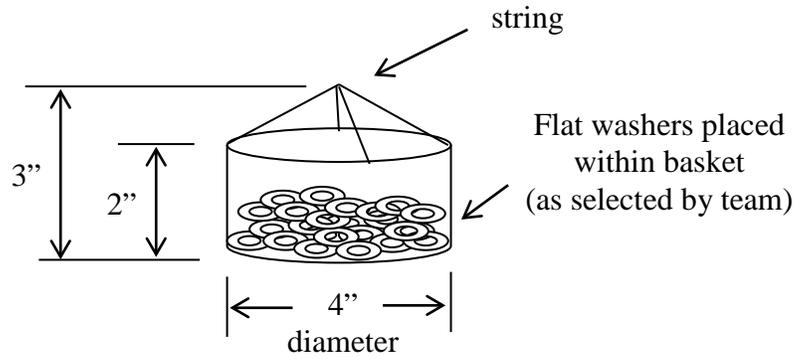

Figure 1. Track Diagram for Tractor Pull
4. The vehicle must rest on the platform surface provided by the E3 committee, Figure 1, during the competition and must support itself while connected to the basket.
6. The basket, which will be provided by the Committee, is a PVC cup 4 inches in diameter with strings converging to a singular point for attachment to the device. The basket will be rested on the floor as shown in the figure 1 shown below.